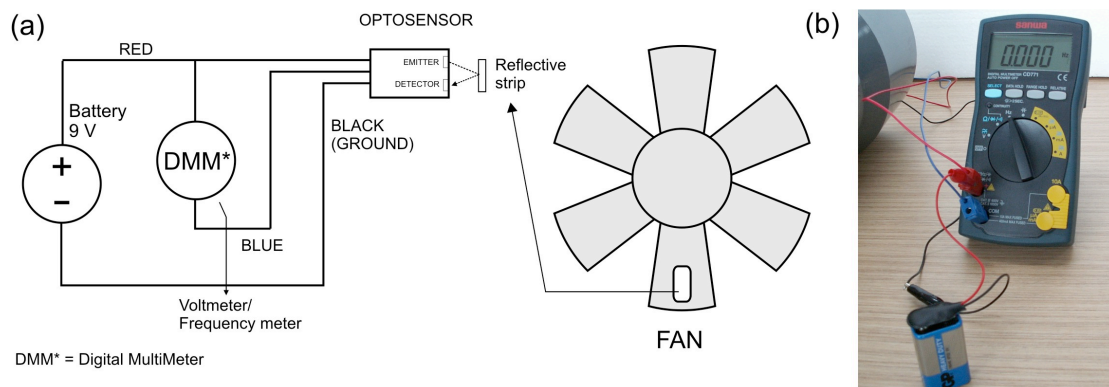

Figure 4. Opto-sensor output connection to the DMM#1 that works as voltmeter or frequency meter.
Measuring the rotation speed of the motor or wind turbine is important in wind power engineering. We will use a simple optoelectronic-sensor circuit as shown below to measure the rotation frequency of the motor. The opto-sensor consists of a pair of infrared light emitter and detector that will detect a reflective strip on the blade as the motor rotates (Figure 4).
- (a) Connect the opto-sensor circuit as shown in Figure 4.